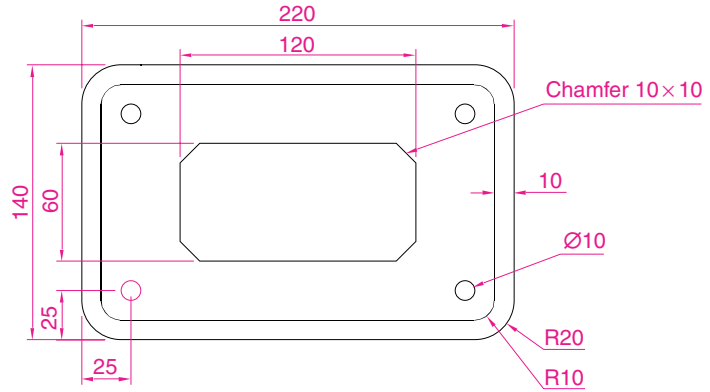

Fig. 6.43 Exercise 2
2. Construct the drawing in Fig. 6.43 but in place of the given dimensions add dimensions showing tolerances of 0.25 above and below.